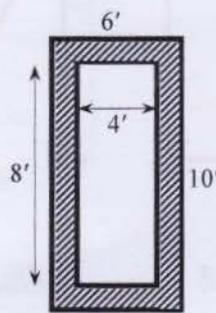

Fig. 2
- Calculate the Yield Moment ( $M_y$ ) and Plastic Moment ( $M_p$ ) capacity of the section shown in Fig. 2 if the section is made of elastic-fully plastic material [Given:  $\sigma_y = \sigma_{yp} = 60$  ksi].